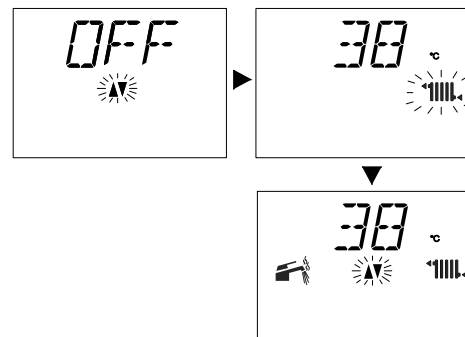

Figure 5.6
- 3 The LCD display shows the sequence in Figure 5.6.